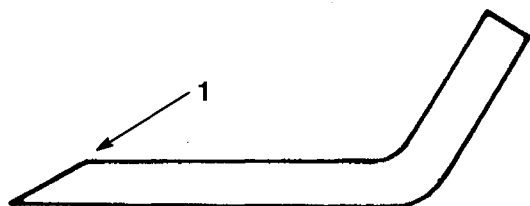

Figure 20
1. Use a file to sharpen the cutting edge at both ends of the blade (Fig. 20). Maintain the original angle. The blade retains its balance if the same amount of material is removed from both cutting edges.